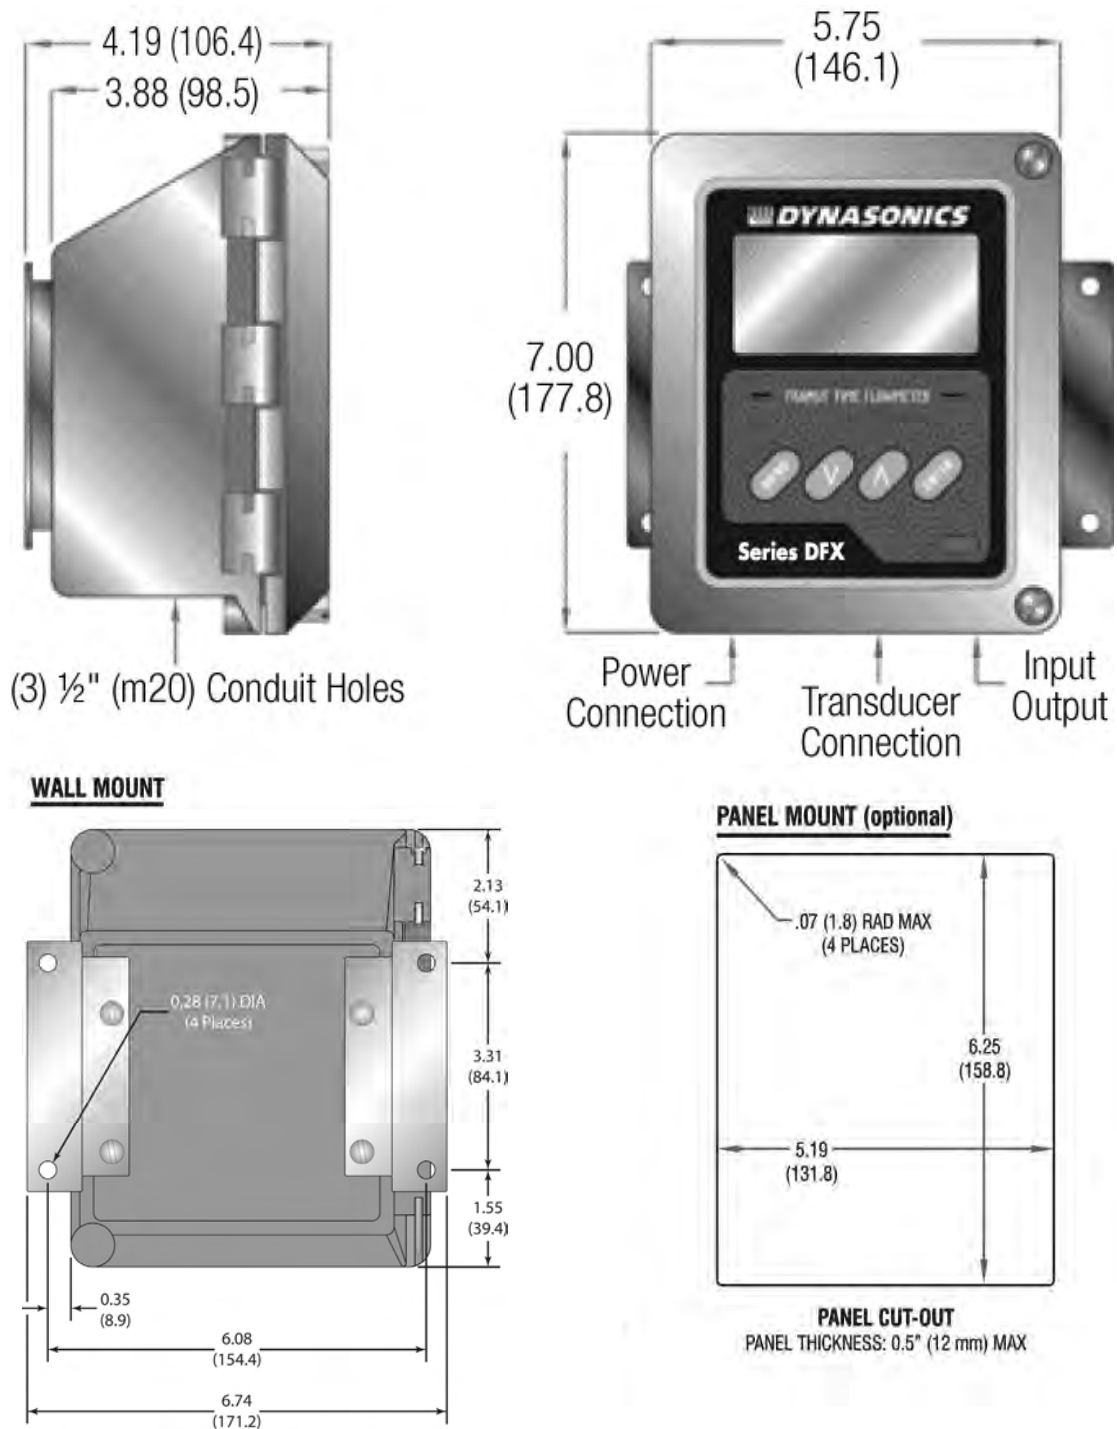

Figure 3.1
3. Mounting: Refer to **Figure 3.1** on page 3.2 for enclosure and mounting dimension details. Ensure that enough room is available to allow for door swing, maintenance and conduit entrances. Secure the enclosure to a flat surface with four appropriate fasteners.